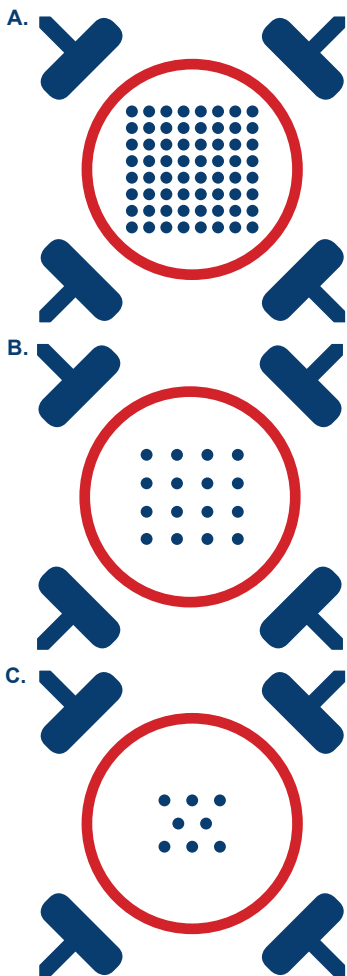

Figure 1: Drop Placement Diagram
7. Add a 5 μL droplet of PEI solution over the MEA electrode area in a bio-safety cabinet. Incubate for 1 hour at 37°C in a cell culture incubator. Look to Figure 1 or 2 on page 7 for placement.
11. Add a 5 μ L droplet of laminin over the MEA electrode area in a bio-safety cabinet. Look to Figure 1. on page 8 for placement.
25. Seed a 5 μ L droplet of the suspension (80,000 neurons) directly over the array of electrodes in each pre-treated well. See Figure 1 on the left for an example of drop placement.